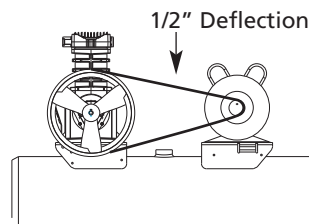

Figure 6
Belts will stretch in normal use. Properly adjusted, a 5-pound force applied to the belt between the motor pulley and the pump will deflect the belt about 1/2" (See Figure 6).
4. Adjust flywheel or motor pulley so that the belt runs straight (See Figure 6).